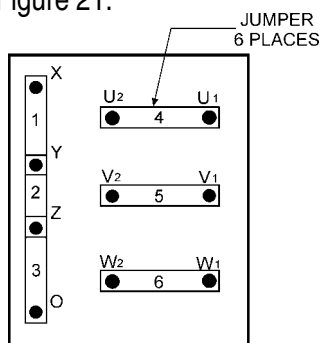

Figure 21. Voltage Change-Over Board 240V Configuration
1. Jumper the voltage change-over board for 240V operation as shown in Figure 21.
1. Make sure the voltage change-over board is jumpered for 240V operation as shown in Figure 21 .
1. Make sure the voltage change-over board is jumpered for 240V operation as shown in Figure 21.